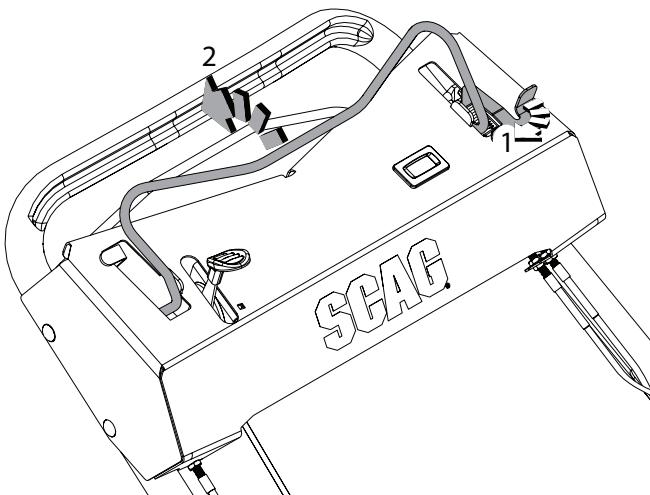

Figure 6-3. Blade Control Bar Engagement
4. Push and hold the blade control lock lever forward to release the blade control bar. See Figure 6-3.
5. Pull the blade control bar to the handle and release the blade control lock lever. See Figure 6-3.